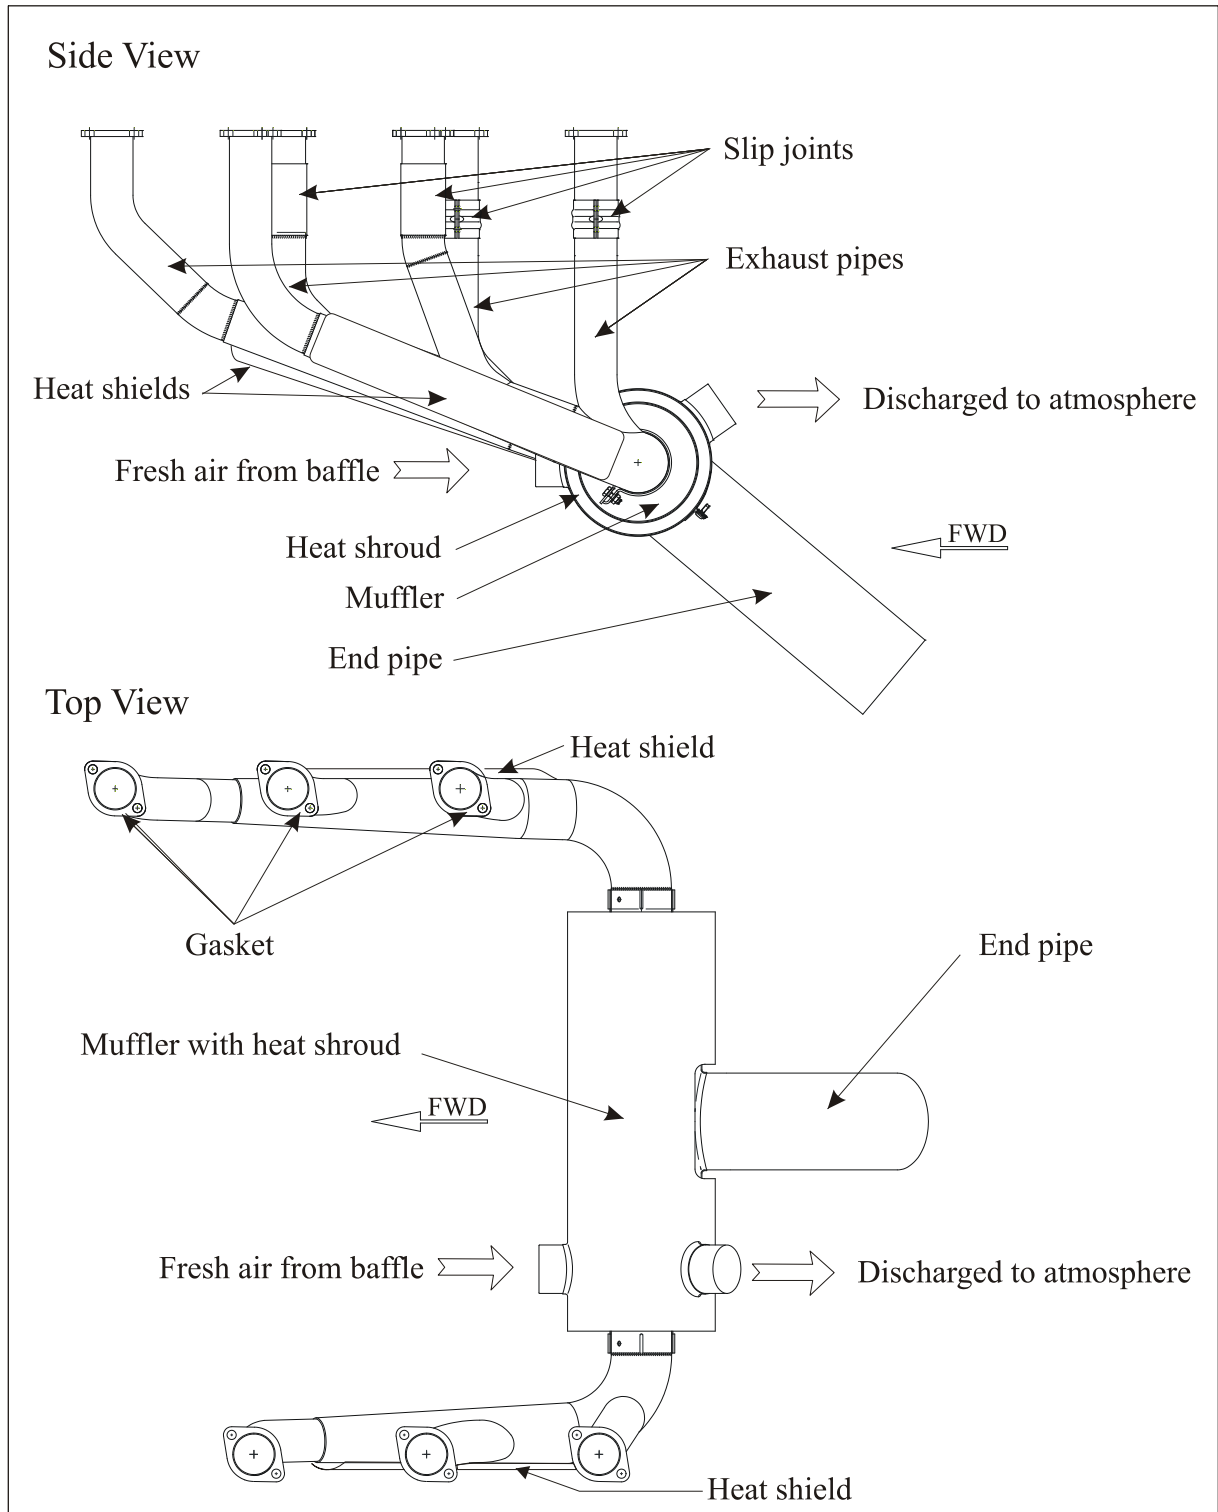

Figure 1
- 2 Identify EGT sensor using Figure 1.
The EXTRA 300L is generally equipped with a Gomolzig 6 in 1 exhaust system (refer to Figure 1) with integrated silencer (muffler).